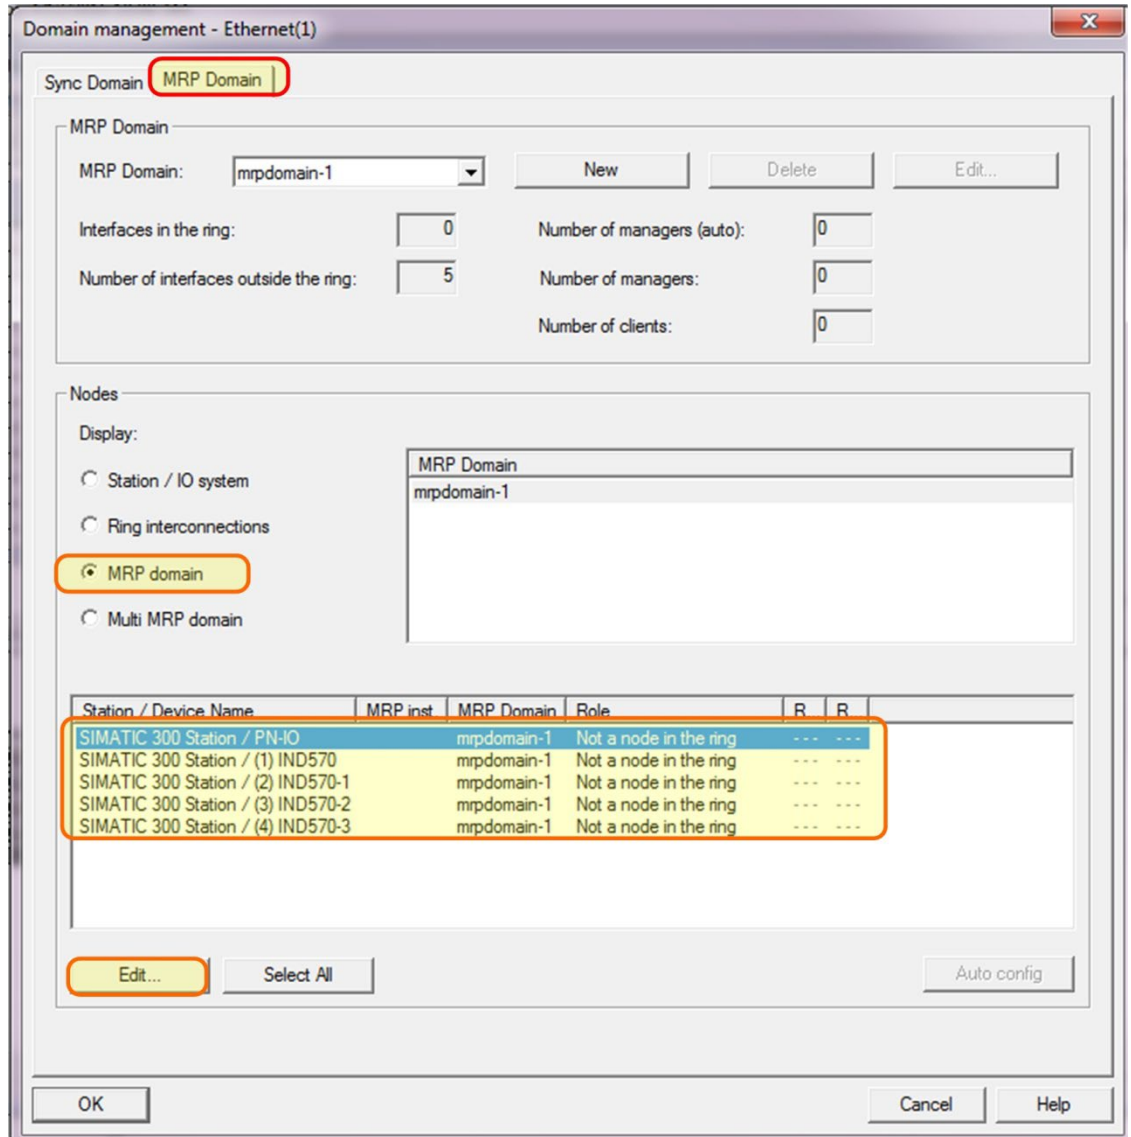

Figure 7-63: Editing Device Properties
2. Edit the Properties of each device as shown in Figure 7-63